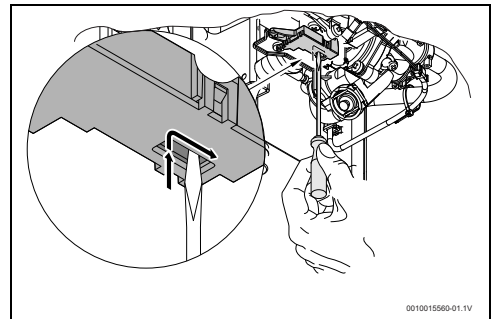

Fig. 28 Rearme do micro-interruptor
- Posicionar o micro-interruptor conforme Fig 28.